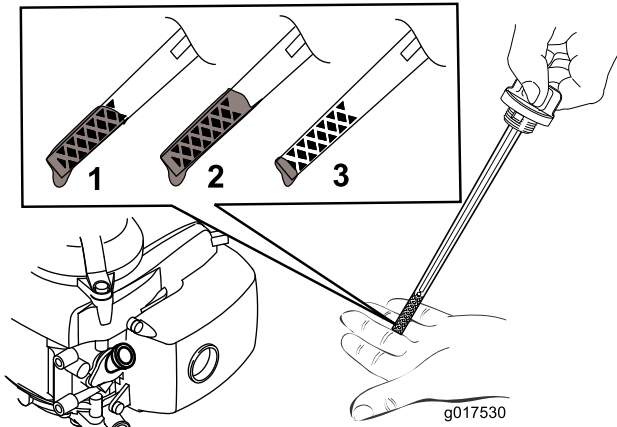

Figure 5
2. Remove the dipstick (Figure 5).
Note: Fill the engine crankcase with oil until the dipstick indicates that the engine oil level is correct as shown in **Figure 5**. If you overfill the engine with oil, remove the excess oil as directed in **Changing the Engine Oil (page 15)**.